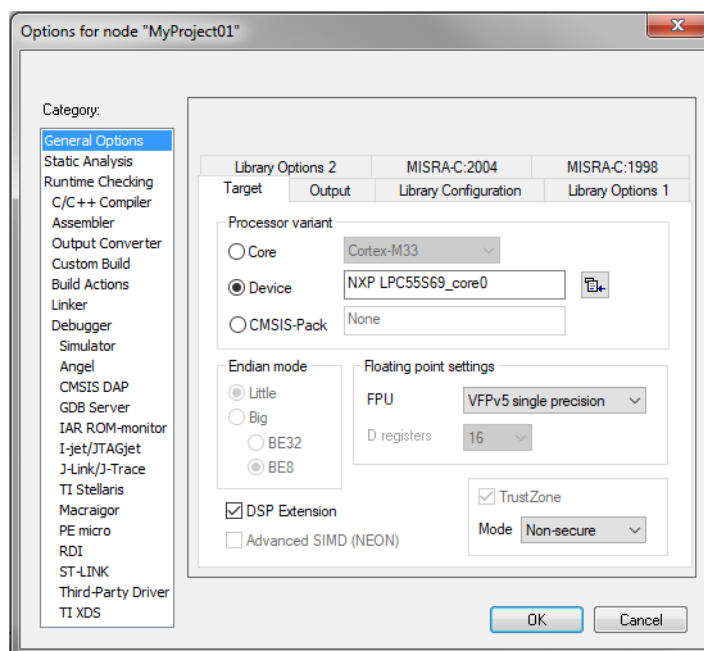

Figure 1-28. Options dialog
6. In the Target tab, select the Device option, and click the button next to the dialog to select the MCU. In this example, select NXP > LPC55S69 > NXP LPC55S69_core0. Select VFPv5 single precision in the FPU option. The DSP instructions group is required please check the DSP Extensions checkbox if not checked. Click OK. See Figure 1-28.